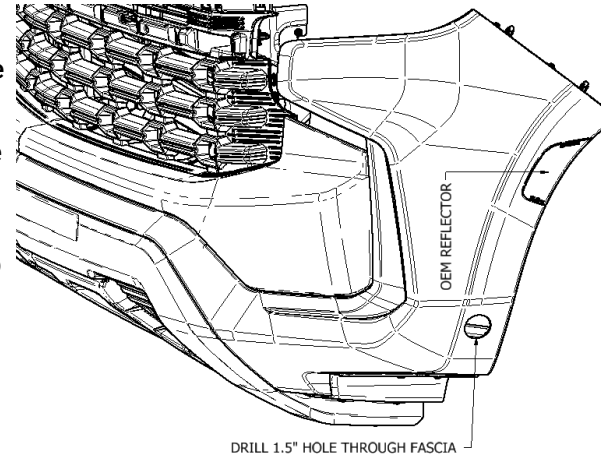

Figure 3
- Once hole positions are marked, use a 1-1/2" diameter hole saw to drill holes into the fascia. Rough location of the driver side hole can be seen in Figure 3. This will need to be done for both sides, flip the template over to use on passenger side.